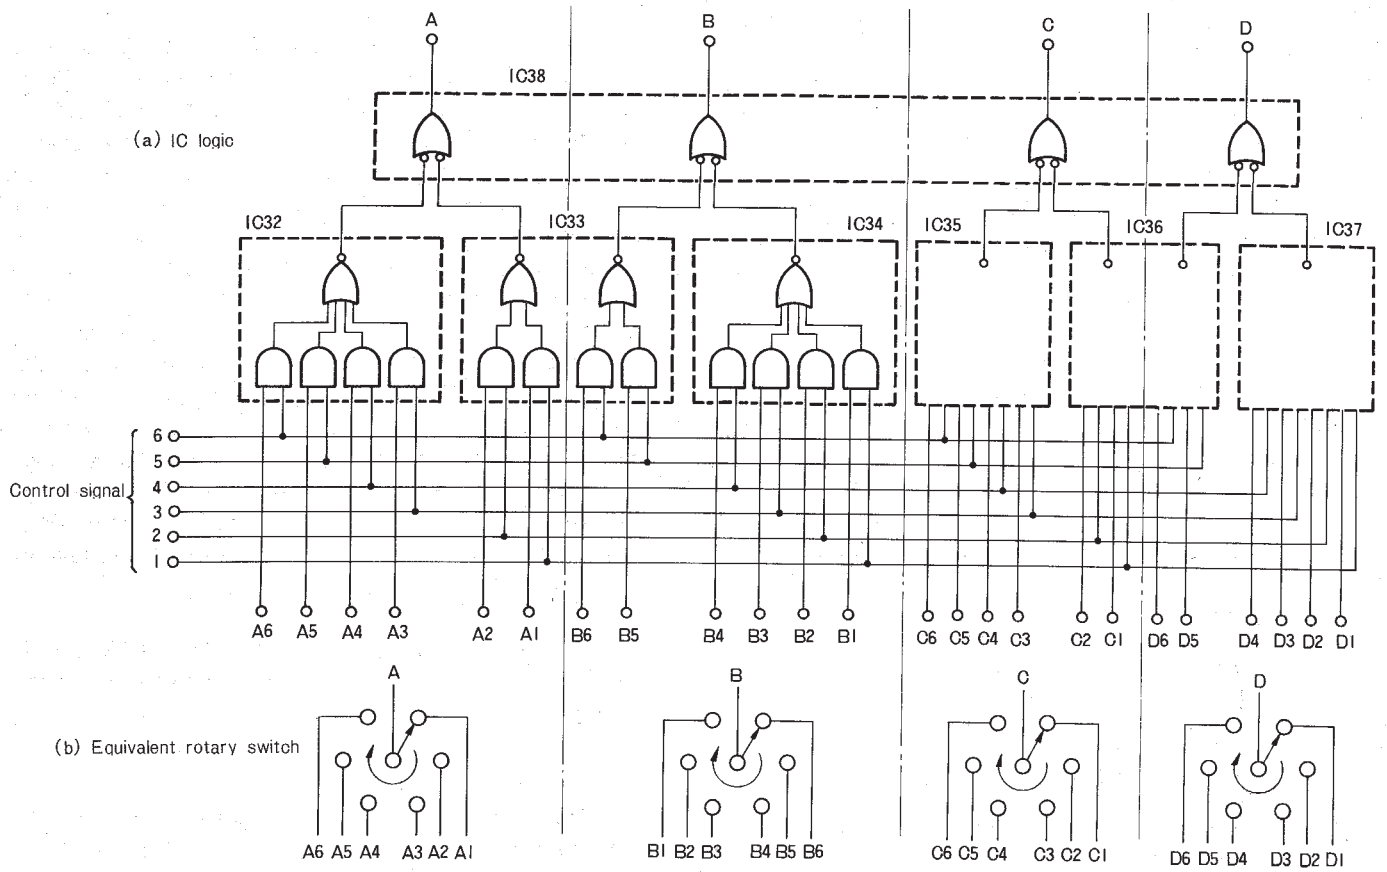
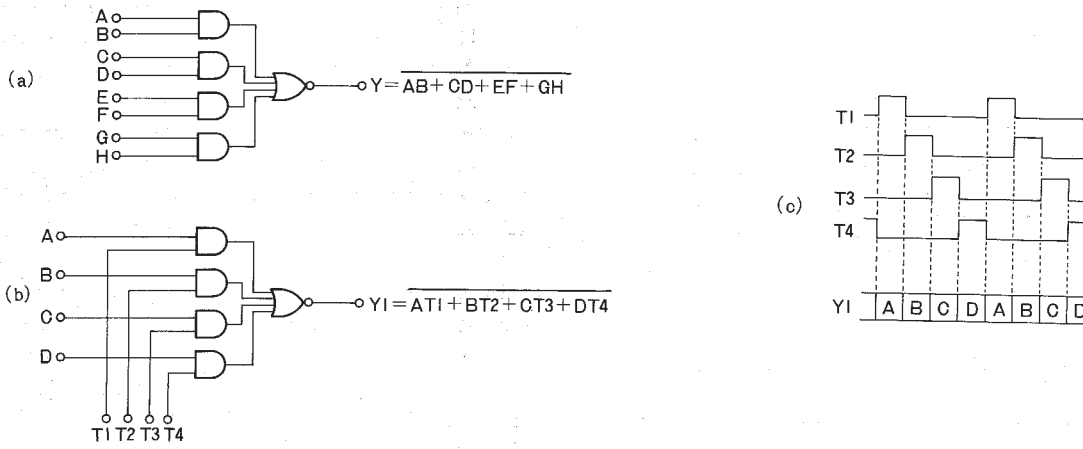
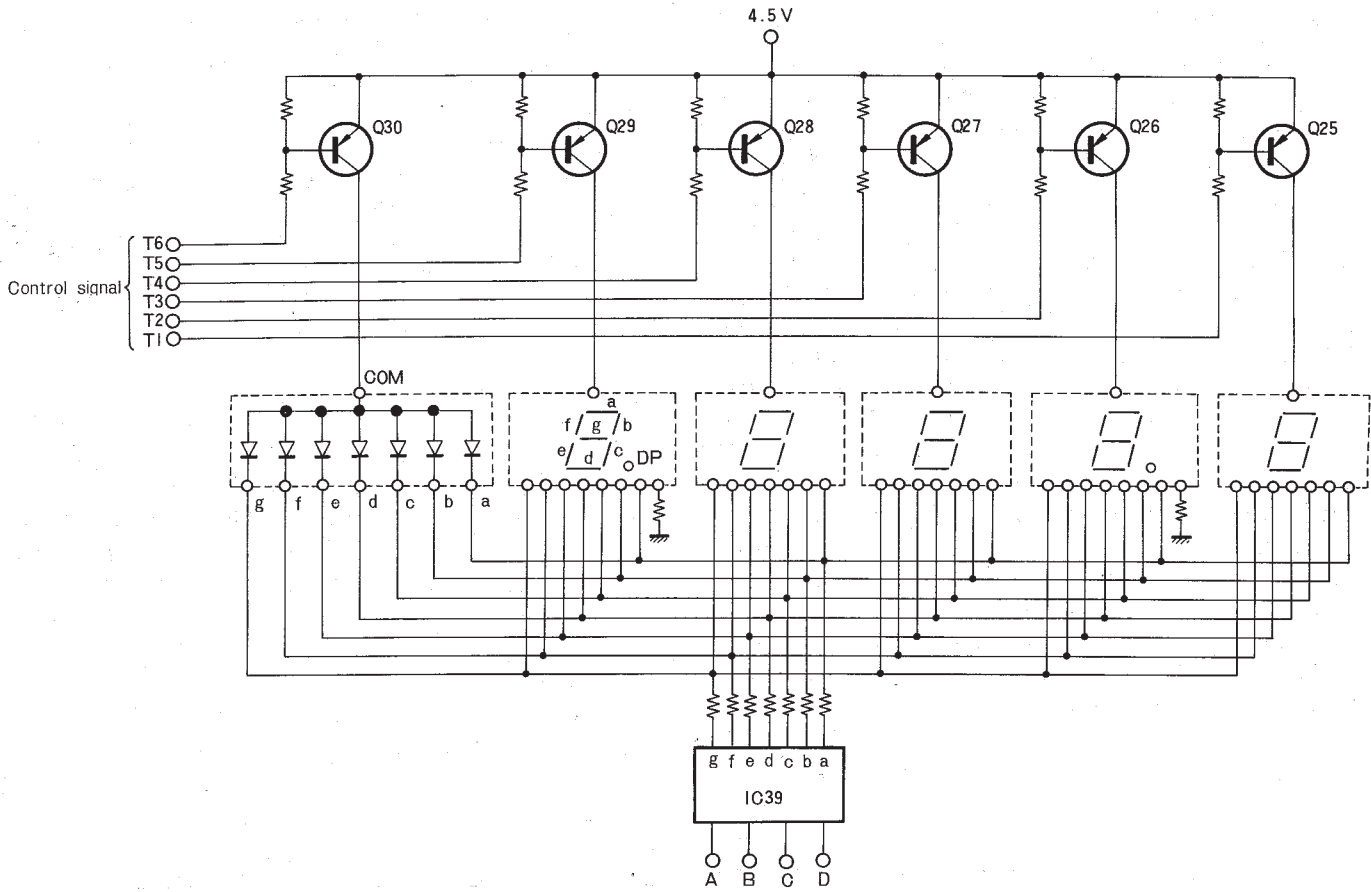

Fig. 18 Multiplexer Circuit
Fig. 19 4 Bits Multiplexer
Fig. 20 Display Driver
The multiplexer is generally installed on the latch side. In the circuit diagram it is composed of the 7 IC's, IC32 to IC38. The latch output is expressed in the BCD (Binary Coded Decimal) mode and the output for one digit is expressed by the 4 BCD output components, A, B, C, and D. The multiplexer gathers components A (or B, ... ) out of the whole 6 digits in one position and ejects these components A ~ D synchronized with the scanning control signal by time division switching system. Fig. 18 shows the logical diagram of the circuit blocks that are indicated by the boxes in the circuit diagram. The SN7454N of IC32, 34, 35, and 37 is a 4-input distributor, while the TD3451AP of IC33 and 36 is used as a 2-input 2-circuit distributor. For ease of understanding, Fig. 19 is a logic diagram of SN7454N. As shown in Fig. 19 (a), this IC contains 4 2-input AND circuits and an NOR circuit. When 8 outputs A~ H enter, the resultant output Y is as follows:
When it is assumed that the signals T1 ~ 4 are the control signals scanned in turn as shown in Fig. 19 (c), the output Y1 will come out in the information train of component A for T1, component B for T2, .... , as is obvious from expression (4). The same operation is performed for the 6 digits by the circuit shown in Fig. 19. Since IC does not have any distributor for 6 inputs, outputs from 4-input and 2-input circuits are again combined at IC38 to obtain a function which is equivalent to one obtainable from a 6-input distributor. The control signal in this circuit is switched over in the order of A1, A2, A3, .... at the velocity of 2kHz. Therefore, as shown in Fig. 18 (b), each BCD digit is switched over to another by the rotary switch at the speed of 333Hz. The multiplexer (distributor) on the display side also operates in the same manner. In this case, however, the power supply to the display is merely switched on and off, and a control signal is delivered to the base of the transistor connected in series with the power supply of each display unit, in good timing with the latch side as shown in Fig. 20. Therefore the multiplexer on the display side is used merely to distribute current to the display units.